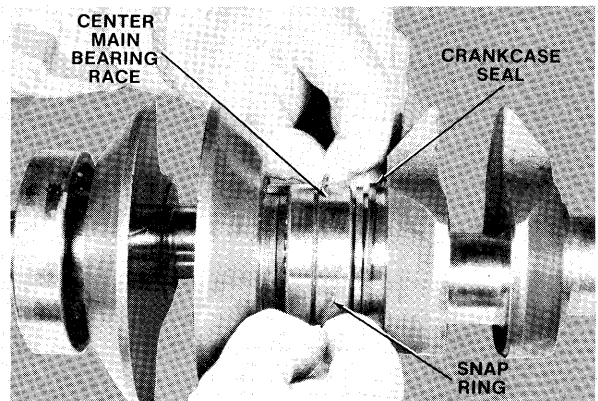

Figure 8—Removing Main Bearings
- K. Remove snap ring from groove in main bearing as shown in figure 8. Remove center main bearing race and caged rollers.
- L. Remove crankcase seal from groove in crankshaft next to main bearing. See figure 8. Be sure to group all components of each main bearing group together — do not mix.